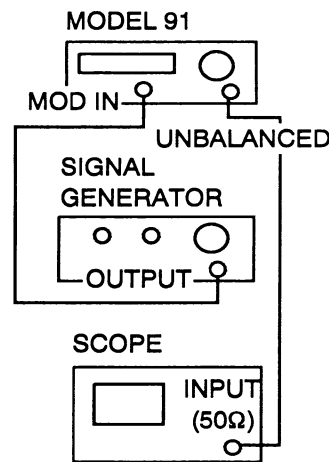

Figure 3-9. AM Setup
2. Connect the Model 91 and test equipment as shown in figure 3-9.